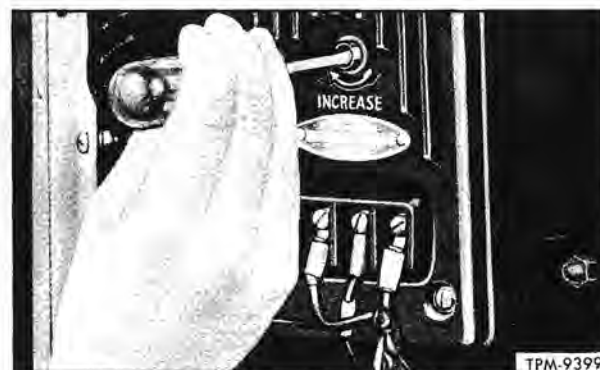

Figure 4—Adjusting Voltage Regulator
4. Observe voltmeter; a steady reading of 13.7 volts should appear. If this reading is not present, remove plug from regulator and adjust potentiometer (fig. 4) until reading is obtained.